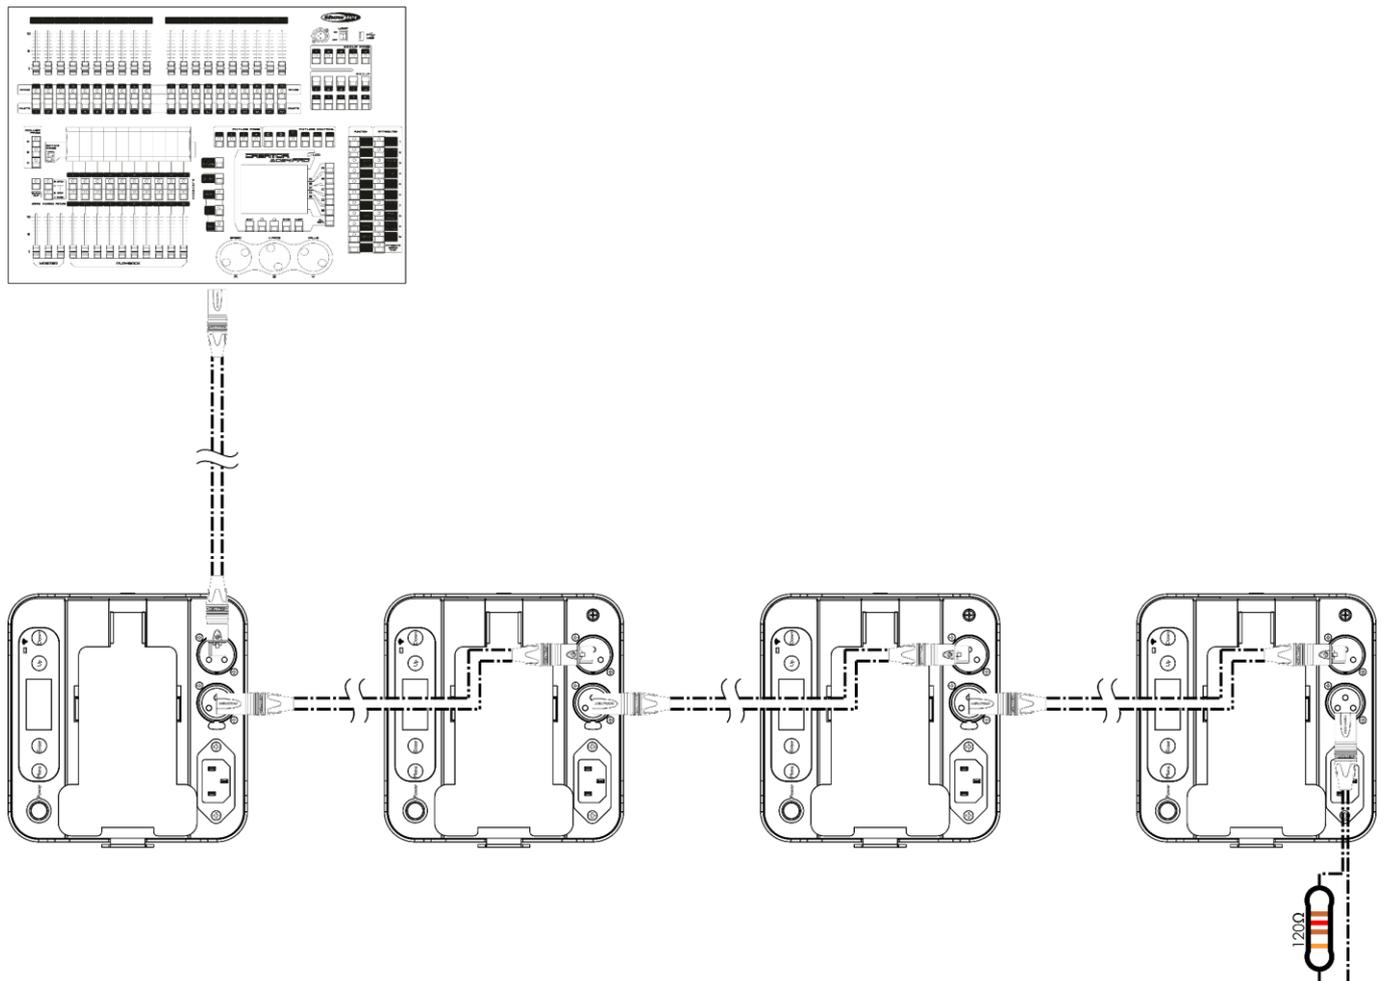

Fig. 08
- 04) Link the units as shown in Fig. 08. Connect a DMX signal cable from the first unit's DMX "out" socket to the second unit's "in" socket. Repeat this process to link the second, third, and fourth units.